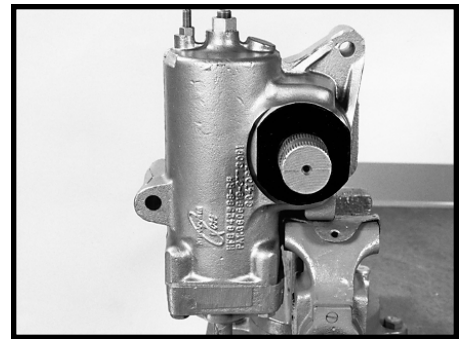
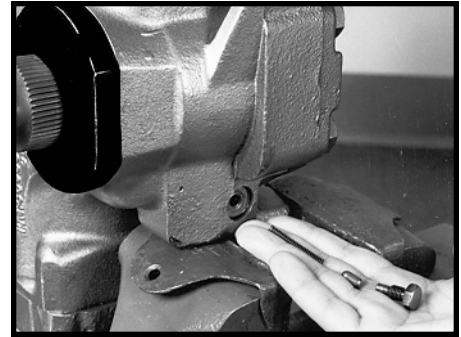

Figure 161
Figure 162
52. If your gear is equipped with the automatic bleed screw (20B), position the steering gear so that the cylinder bore axis is vertical and the input shaft is pointing down. SEE FIGURE 161. Then, install the spring (20D), the special pin (20C) spherical end first, and the automatic bleed screw (20B) into the housing. SEE FIGURE 162. Torque the screw to 16-20 ft. lbs. (22-27 N m). 1/2 inch hex or E-10 Torx socket required.